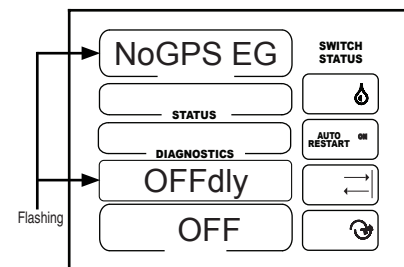

Figure 50-2
1. NoGPS EG OFFdly should be flashing. See figure 50-2.